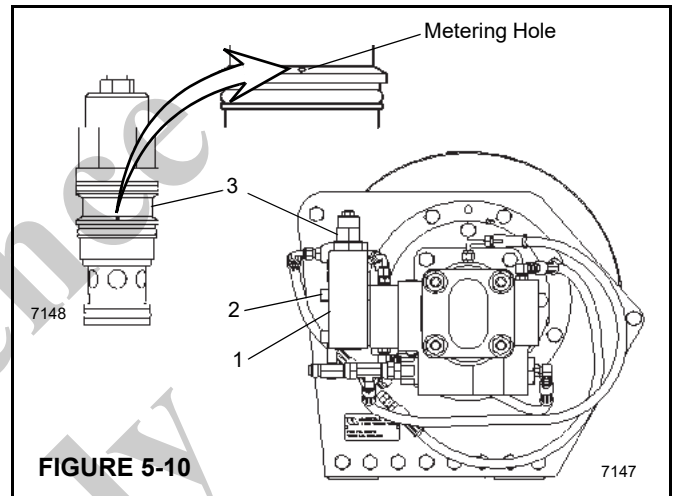

FIGURE 5-10
1. Remove the hose and the counterbalance block (42) from the motor assembly.
2. To remove the counterbalance block (42), loosen and remove the 4 capscrews (55).
3. Remove the counterbalance valve (58) from the counterbalance block and inspect the small metering hole located on the side of the cartridge valve to make sure it is not obstructed (Figure 5-10). Also inspect the O-rings to insure that they are not cut or flattened.